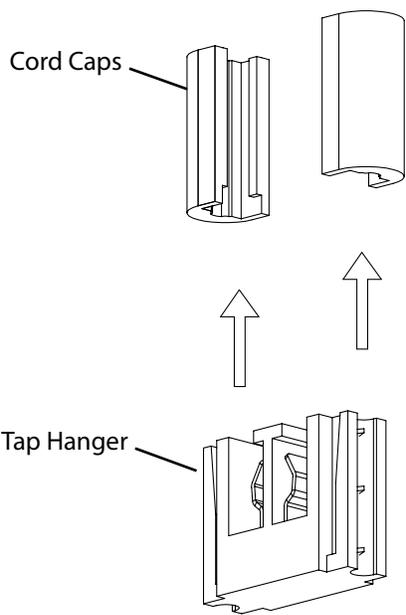

Fig. 17
3. Remove **Cord Caps** from **Tap Hanger** by sliding them up and off the sides of the **Tap Hanger** (Fig. 17).